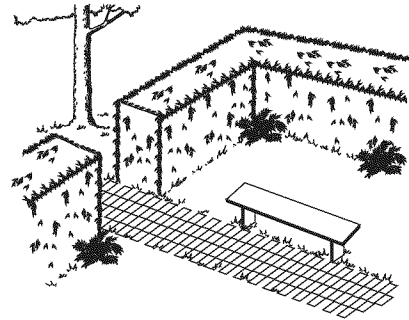

Fig. 5
- To trim the sides of the hedge, sweep the hedge trimmer upward from the bottom of the hedge to the top. Trim the sides of the hedge to be slightly narrower at the top (Fig. 5).